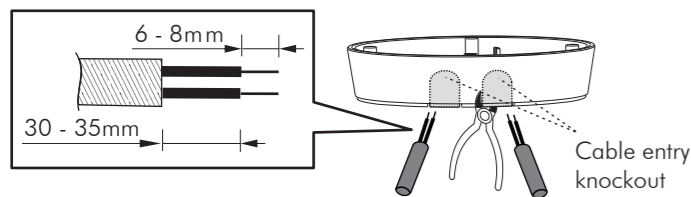

FIG.13
3.4.3.2 To feed AC power cables through the side of junction box, please use the cutting pliers to break the cable entry knockouts on the side of junction box, then insert cables into junction box and feed through it. Strip off 6 - 8mm of cable sheathing for wiring (See FIG.13).